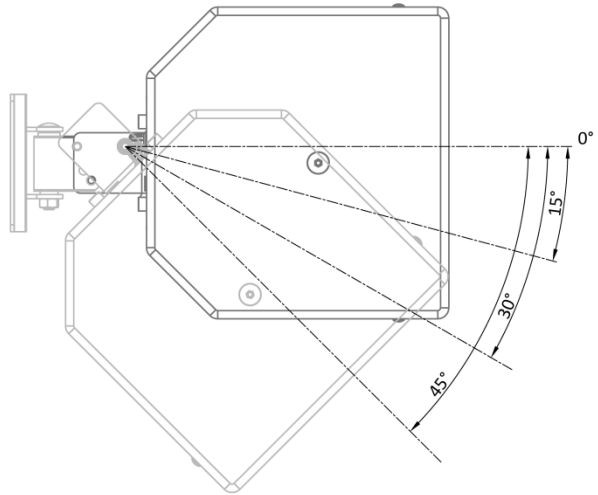

FIG.10
- FIG.10 and FIG.11 show the possible horizontal swivel combinations: FIG.10 is for the speaker mounted vertically or FIG.11 for speaker mounted horizontally.